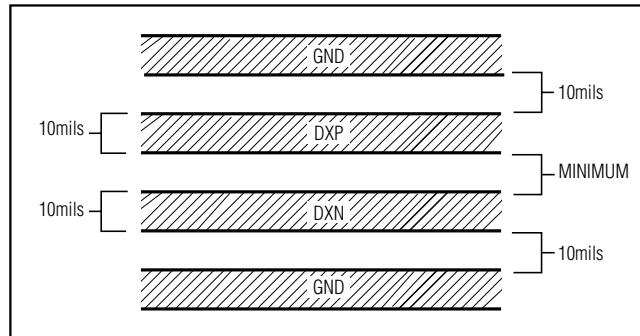

Figure 2. Recommended DXP-DXN PC Traces
- 3) Route the DXP and DXN traces in parallel and in close proximity to each other, away from any higher voltage traces, such as 12VDC. Leakage currents from PC board contamination must be dealt with carefully since a 20M $\Omega$  leakage path from DXP to ground causes about 1°C error. If high-voltage traces are unavoidable, connect guard traces to GND on either side of the DXP-DXN traces (Figure 2).
- 6) Use wide traces. Narrow traces are more inductive and tend to pick up radiated noise. The 10mil widths and spacings that are recommended in Figure 2 are not absolutely necessary, as they offer only a minor improvement in leakage and noise over narrow traces. Use wider traces when practical.